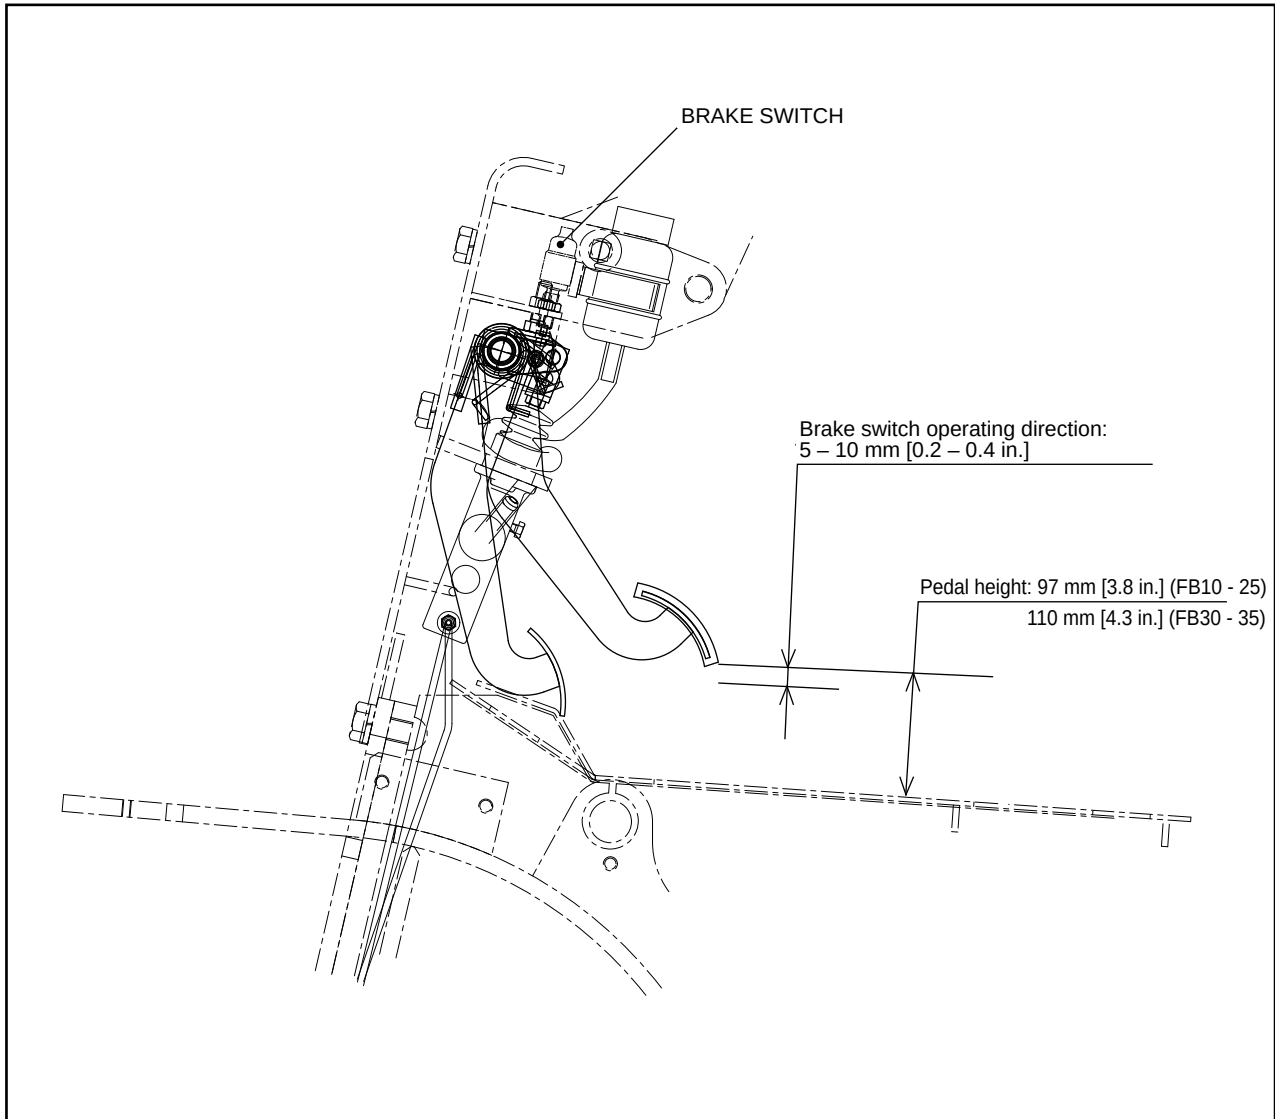

Fig. 5.29
- (1) Shorten the push rod length of the master cylinder.
- (2) Using the stopper bolt, adjust the pedal upheight to the value shown in Figure 5.29.
- (3) Keeping the pedal pressed down by the pedal play, extend the push rod so that its tip contacts the piston of the master cylinder.
- (4) Securely tighten the push rod by its lock nut.
- (1) Make sure that the pedal upheight is the value shown in Figure 5.29. Loosen the brake switch lock nut.
- (2) Remove the brake switch lead wire from the connector.
- (3) While turning the brake switch and pressing down the brake pedal by 5 to 10 mm [0.2 to 0.4 in.], check and find the position where the switch turns ON.
- (4) Secure the brake switch with the lock nut.